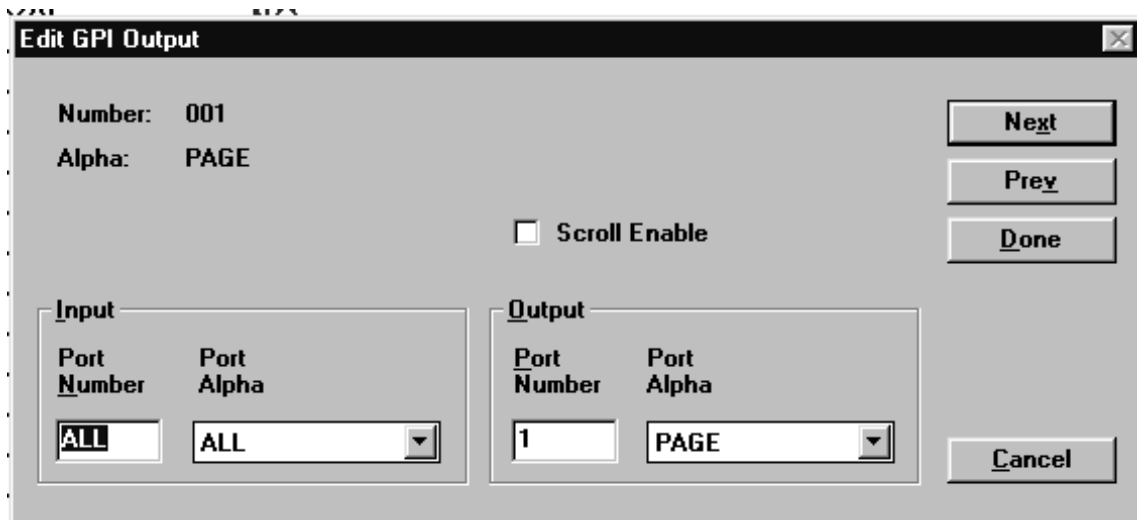

Figure 26. Setting up a GPI output to activate whenever anyone talks to a particular output port.
2) Set up the GPI output so that it will activate whenever anyone talks to the intercom port where the paging amplifier is connected. Figure 26 shows an example of this. The advantage to this approach is that once you have setup the